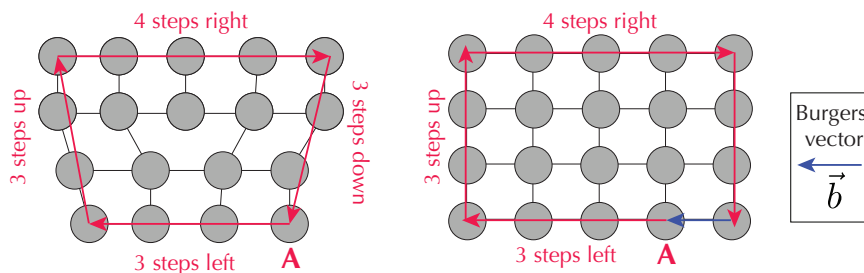

Figure 6: Constructing a burgers circuits. The Burgers vector \vec{b} is marked with a blue arrow.
- The geometric identification rigorously proves that a defect is a dislocation, based on a topological property, the **Burgers vector**. To find this vector, which is zero for other point defects but has a characteristic non-zero value for a given dislocation, you must construct a **Burgers circuit** (see figure 6 with an example constructed for the square lattice).
Print a photo of the system. Choose a bubble a few rows away from the defect that you believe is a dislocation. Call this bubble A (see figure 6). Independently on a paper sketch a piece of a perfect lattice and mark a site corresponding to A. Now perform a clockwise circuit, jumping from one bubble to the next, starting and ending at bubble A; most importantly you must enclose the defect in your circuit. For each step in the circuit, mark the corresponding step on the perfect lattice. For example, to go back to A you might have to go 3 bubbles horizontally to the left, 5 up, 4 steps right, etc., and for each jump you must make the same axis and direction jump on the paper. However, the circuit that you have drawn on the paper might not end back at bubble A. This failure to close the circuit is the signature of a dislocation: if you have a point defect, such as a vacancy, there will